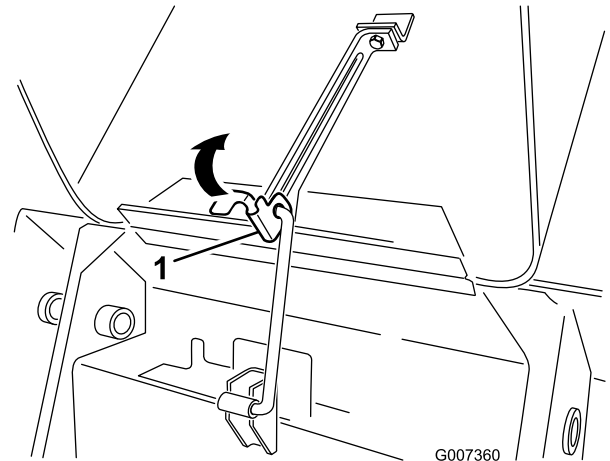

Figure 31
1. Lift up on the tab securing the prop-rod (Figure 31)